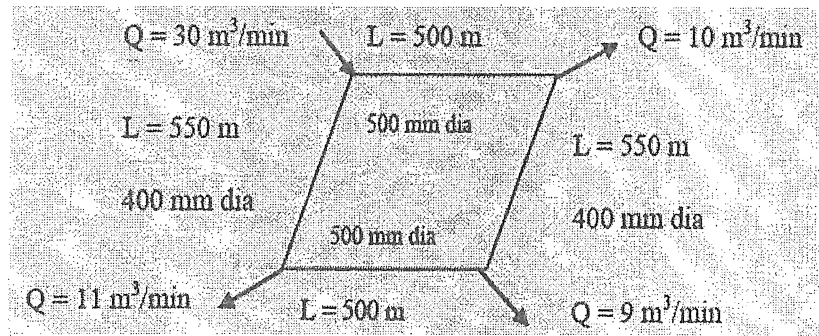

Figure 1.
- 9 Identify the flow in each pipe in the loop shown in figure 1. use Hardy cross method for analyzing the loop. Consider CH as 110 for all pipes.